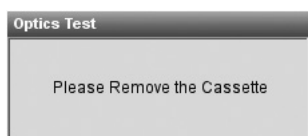

Fig. 8-19 Remove Cassette
- At the completion of the test, the results will be printed and you will be asked to remove the cassette (Fig. 8-19).